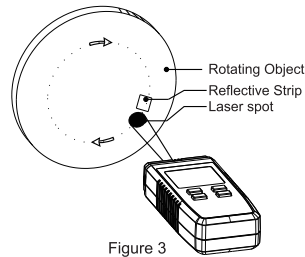

Figure 3
1. RPM measurement (see figure 3)